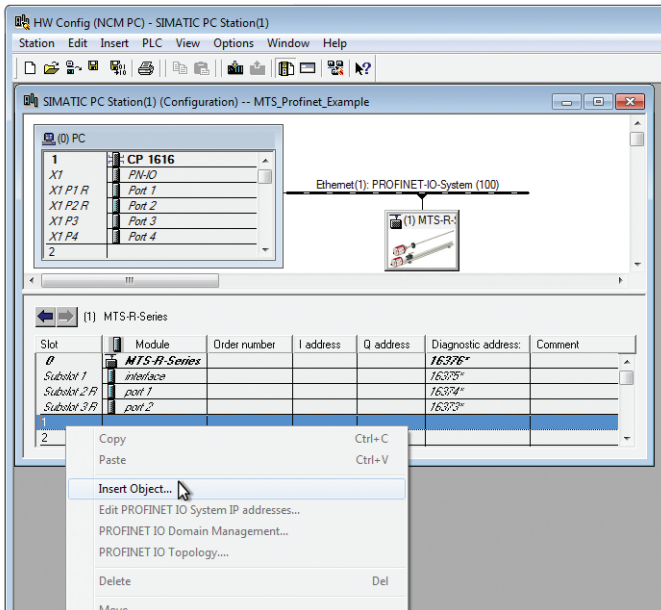

Fig. 41: Add magnet step 1 (source: Siemens)
- Right-click Slot 1 (Fig. 41)
- Insert Object (Fig. 41)